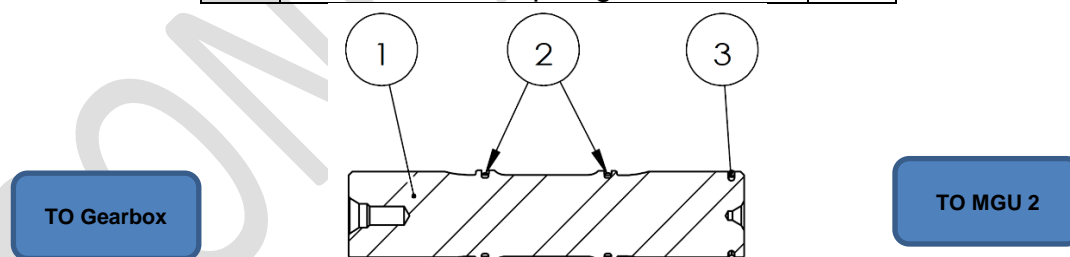

Figure 18: Connecting shaft installation with O-rings and Snap Ring
- Firstly install snap ring (6) and O-rings (5) on connecting shaft.
- Insert connecting shaft to MGU 1 in the orientation Figure 18
- Ensure the O-rings (3) had been installed in the groove on the adapter of the gearbox to achieve the requirements specified on the customer outline drawing.